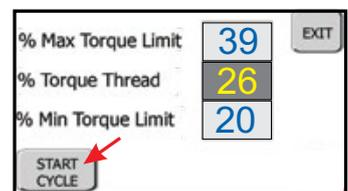
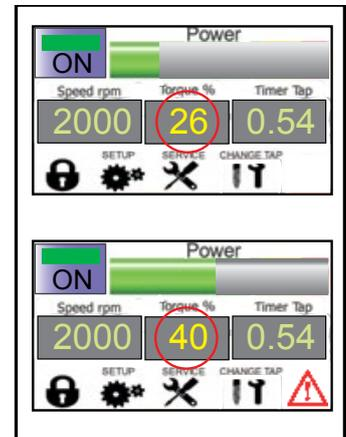

FIG.10
FIG. 11
11. Press NEXT (FIG. 8) to view the page shown in FIG. 10. The spindle in the tapping unit will now make a rotation to get ready for the threading;
13. Make several test threads in different holes, pressing START CYCLE (FIG. 10) for each one of them;
The **threading test** is very important because it allows the system to calculate the torque value (% torque thread) during the threading process and to set a minimum and a maximum torque limit (FIG. 10). Whenever the tapping unit exceeds the minimum or maximum torque limit, the machine stops and the display shows an alarm signal. More information on torque value in next paragraph.
Entering torque parameters in the SET UP menu: The "% torque thread" value in FIG. 10 is determined by the system during the threading test (steps 12-13 of the SET UP paragraph). This test allows the PLC in the panel to read the absorption of current during the threading operation and to show the correspondent value which is the "% torque thread". At the same time the system also calculates the minimum (% torque thread - 25%) and maximum torque (% torque thread + 50%) limits (FIG. 10).
Whenever the tapping unit exceeds the minimum or maximum torque during the threading process, the machine will stop and an alarm will be displayed on the touch screen (FIG. 11).
Min. and max. torque parameters can also be changed by the operator in SET UP menu, pressing on “% max. torque limit” or “% min torque limit” (FIG. 10) and entering the new parameters on the digital keyboard.
Let us suppose that after a certain amount of threadings, the tap gets worn out increasing the absorption of current during the threading operation (see red circles in FIG. 11). When “% torque value” = 40 (value beyond the settled MAX. % torque), the machine stops and the display shows an alarm signal. After checking the tap conditions, the operator may change the worn out tap or, if the tap is still usable, increase the max. torque parameter on page shown in FIG. 10 in the SET UP menu.